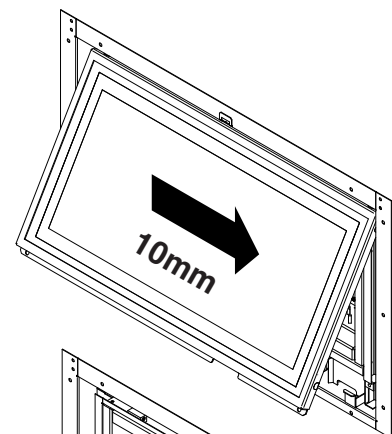

Fig. 59
3. Slide the door to the right by 10mm and remove the door from it's hinges (Fig. 59 & 60).